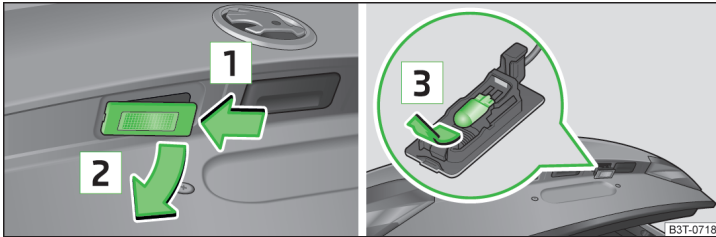

Fig. 205 Remove the number plate light/replace the bulb
- Push in the lamp in the direction of the arrow **1** » Fig. 205.